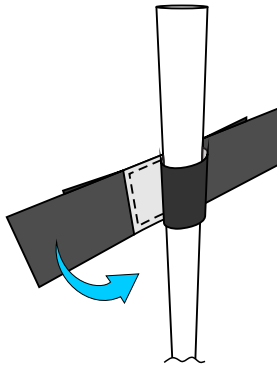

Fig 3.2B
2. Bring the velcro tab around the rail. Ensure the strap remains tight (see Fig 3.2B).